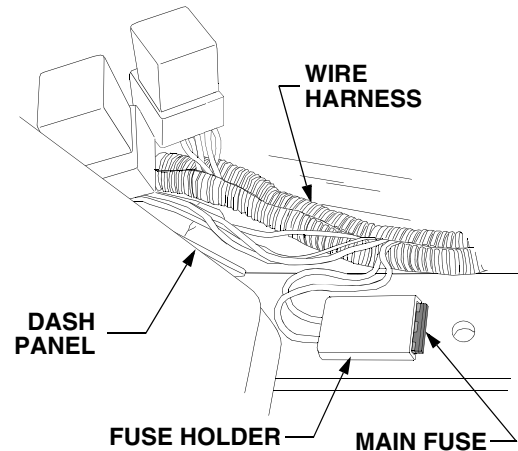

Figure 38
- Locate the main fuse under the dash panel, along the tractor's *right* frame rail. See Figure 38.